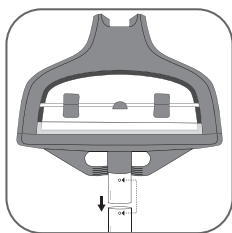

fig. 8
3. Insert vertically the hanger on the top of the pole. The holes at the bottom of the hanger and in the pole should be at the same level. (fig. 8)